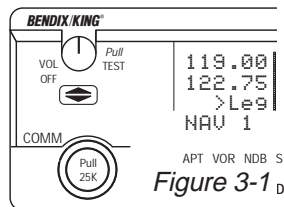

Figure 3-1
1. Use the left outer knob to select the desired number of megahertz between 118 and 136. In figure 3-1, the frequency 122.90 MHz is desired.